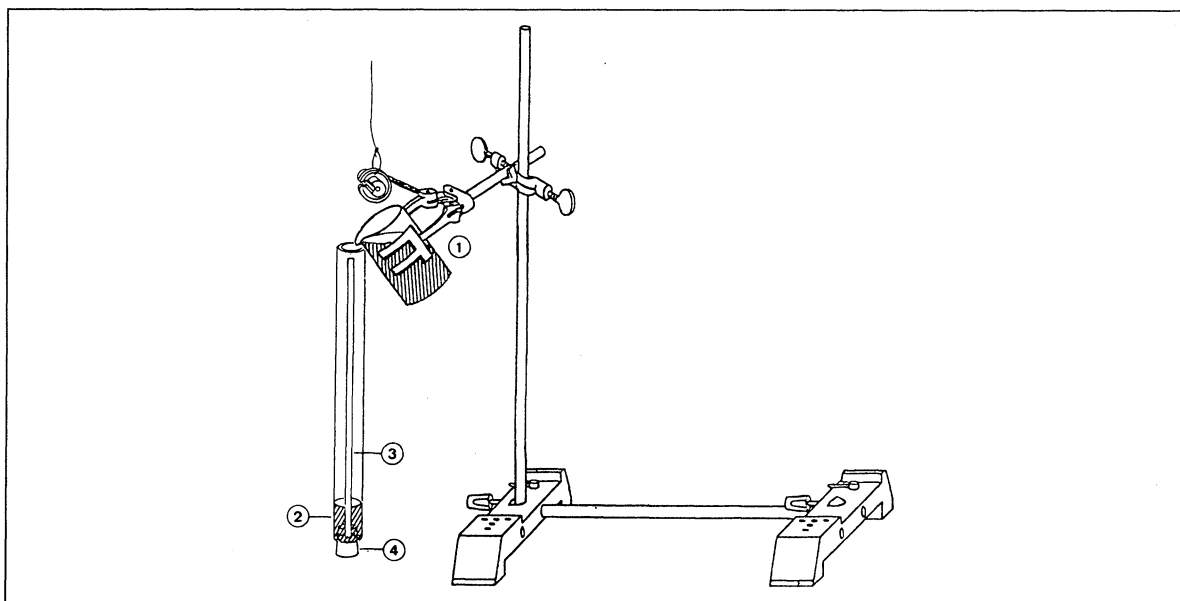

Fig. 6 ► 20. Overflow device for determining the volume of solid bodies
20. Determining the volume of a weight using an overflow vessel. If you do not have access to such a vessel, you can use an experimental setup like the one shown in fig. 6 to perform the experiment.